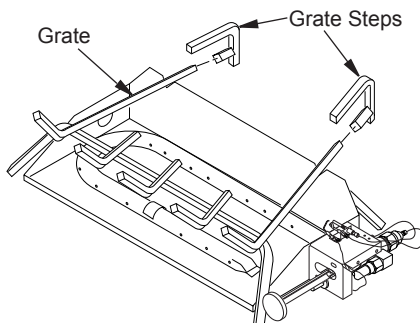

Figure 15 - Installing Grate (Pan Material Not Shown)
2. Slide two rear log grate steps over two outer horizontal supports on grate as shown in Figure 15. (Not required for models CVSR18/24.)